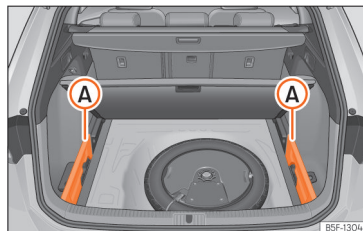

Fig. 186 In the boot: space to store the retractable shelf.
- Remove the left and right covers >>> **Fig. 186** ①.